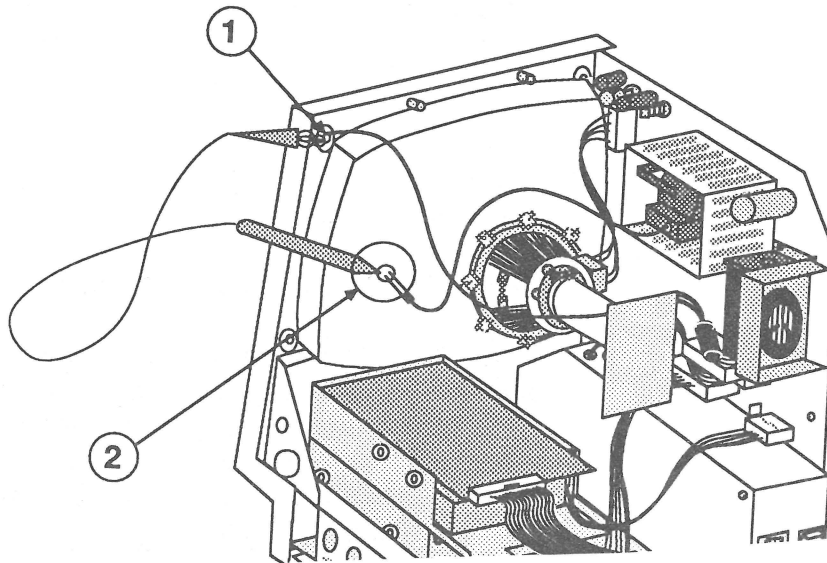

FIGURE 5
4. Attach the alligator clip on the CRT discharge tool to the metal part of the **ground lug** (Figure 5, #1).
CAUTION: Discharge the anode to the metal part of the ground lug displayed in Figure 5, #1. Failure to do so will damage the main logic board and/or the analog board.
6. Hold the CRT discharge tool to the tube surface, and insert it under the anode cap (Figure 5, #2) until it touches the anode ring.